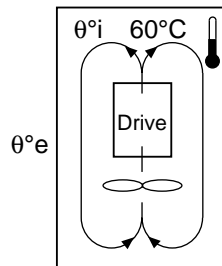

Figure 2-6 Ventilation for Dust- and Damp-Proof Enclosure
- Air flow inside enclosure = 200 CFM (100 dm³/s), fan mounted beneath the controller at a maximum distance of 2 in (50 mm); see Figure 2-6.